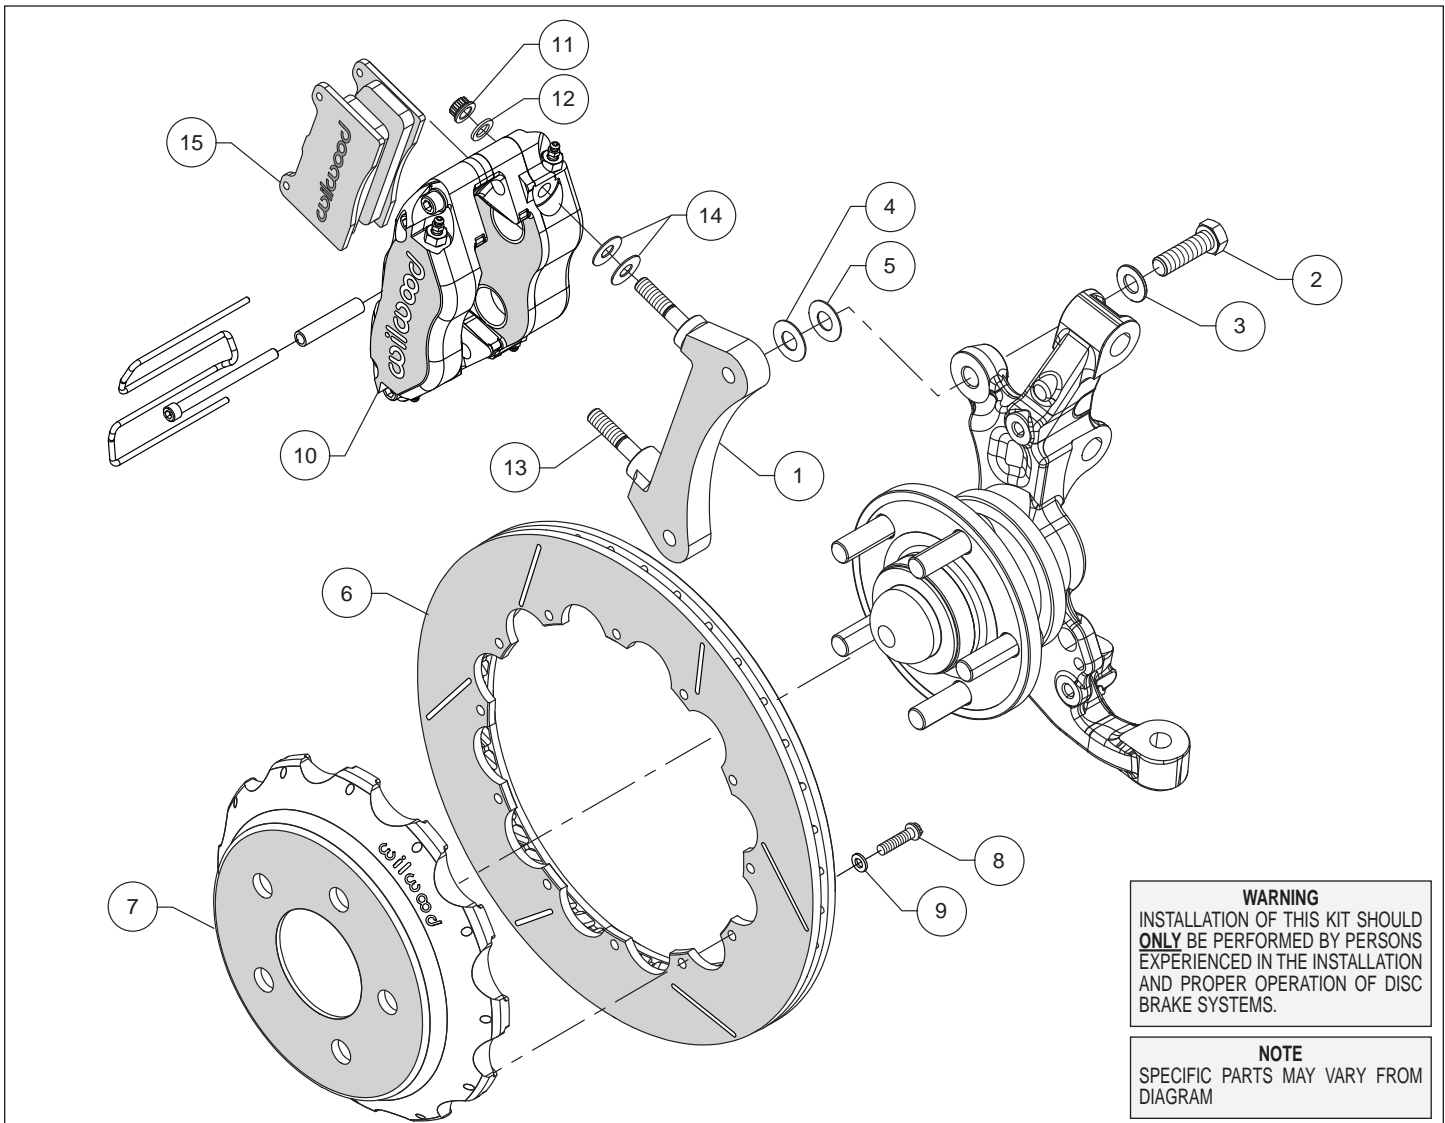
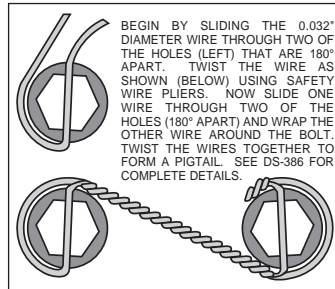

Figure 1. Typical Installation Configuration
Figure 3. Safety Wire Diagram
Assembly Instructions (numbers in parenthesis refer to the parts list and Figure 1 on the preceding pages):
- The caliper mount bracket (1) should initially be installed with clean, dry threads on the mounting bolts. Orient the bracket, as shown in Figure 1 and Photo 1, and install using bolts (2) and washers (3). Initially place one .033" thick shim (4) on each bolt between the bracket and upright, Figure 1. Temporarily tighten the mounting bolts. **NOTE:** *The bracket must fit squarely against the mount bosses on the upright.* Inspect for interference from casting irregularities, machining ridges, burrs, etc. Later, after the caliper alignment has been checked, the mount bolts will be secured using red *Loctite*[®] 271.
- Orient the rotor (6) and the hat (7) as shown in Figure 1 and Photo 2. Attach rotor to hat using bolts (8) and washers (9). Using an alternating sequence, apply red *Loctite*[®] 271 to the threads, and torque to 155 **in-lbs**. Safety wire the bolts using standard 0.032 inch diameter stainless steel safety wire as shown in Figure 3. Refer to Wilwood's data sheet DS-386 (available at www.wilwood.com/Pdf/DataSheets/ds386.pdf) for complete safety wire installation instructions.
- Lubricate the caliper mounting studs (13) with lightweight oil. Initially place two .035" thick shims (14) on each stud as shown in Figure 1 and Photo 4. Mount the caliper (10) onto the bracket (1) using lock nuts (11) and washers (12), Figure 1. Temporarily tighten the lock nuts and view the rotor through the top opening of the caliper. The rotor should be centered in the caliper, Photo 5. If not, adjust by adding or subtracting shims (4 and/or 5) between the bracket and the mounting bosses. Once the caliper alignment is correct, remove the bracket mounting bolts one at a time, apply red *Loctite*[®] 271 to the threads, and torque to 60 ft-lbs.
- Insert the brake pads (15) into the caliper with the friction material facing the rotor (6), as shown in Figure 1 and Photo 6. Check that the top of the brake pad is flush with the outside diameter of the rotor, Photo 7. If not, adjust by adding or subtracting shims (14) between the caliper and the bracket. After the caliper pad height is set, torque the caliper lock nuts (11) to 30 ft-lb. Secure the pads in place using the pad clip retainer as well as the center bridge pad retainer tube, bolt, and locknut, Photo 8. The locknut should be snug without play in the bolt or tube. Be cautious not to over tighten.